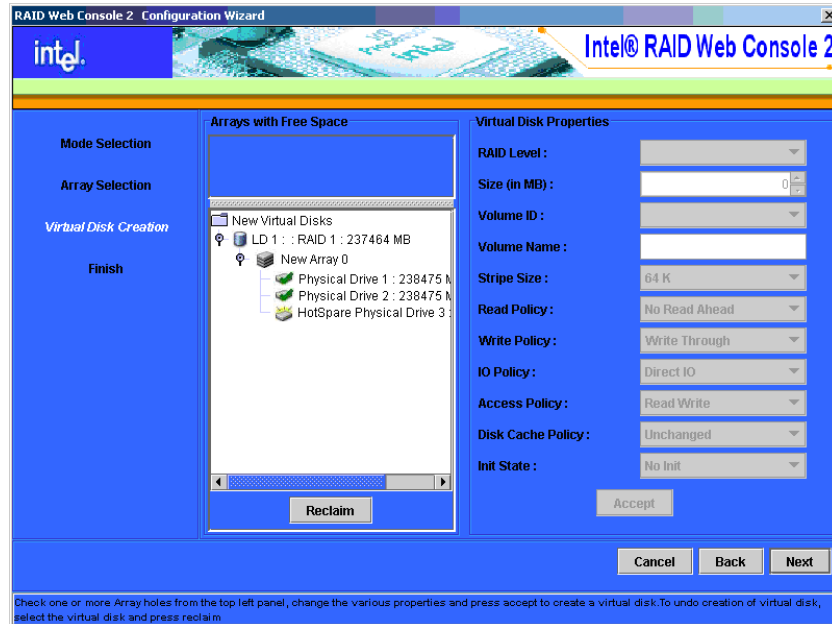

Figure 45. Manual Configuration – New Configuration
8. Click **Accept** to accept the configuration of the new virtual disk. This is displayed in Figure 45.